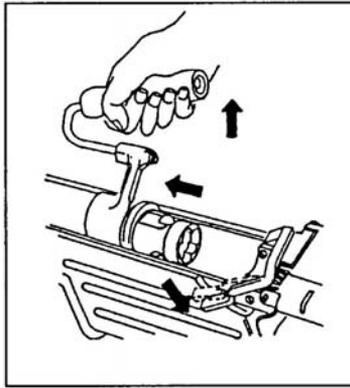

Figure 071-312-4025-7. Removal of the barrel
e. Remove the handguard (figure 071-312-4025-8)
- (1) Push the handguard retaining pin to the left using a section of the cleaning rod.
- (2) Pull downward and remove the handguard.